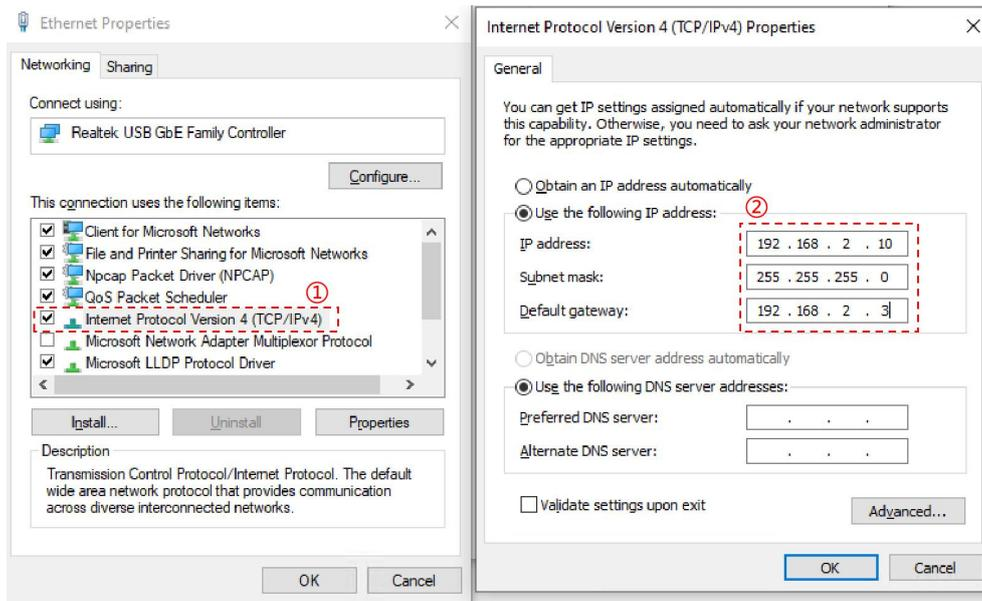

Figure 21. IP Address Settings
- If the connection fails, user may need to manually set the IP address of the computer. Open the interface shown in Figure 21 in the computer's system settings, double-click ① to enter the properties settings, and input the IP address information shown in ②.